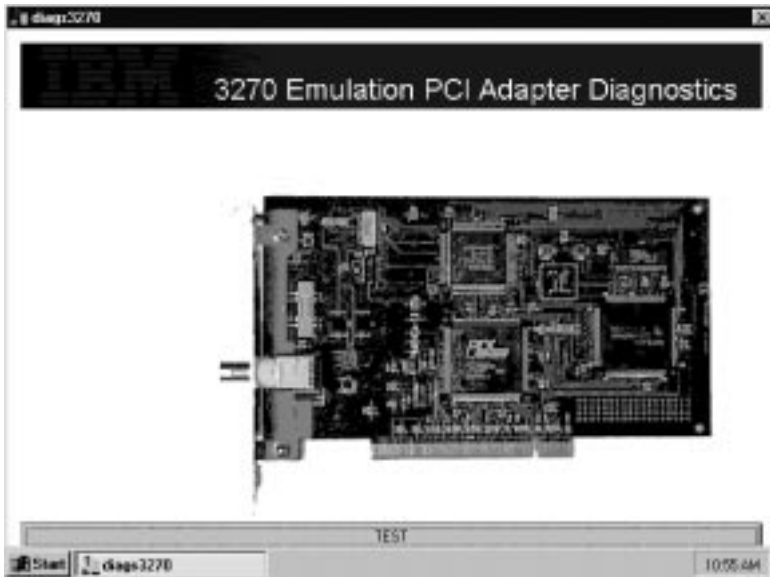

Figure 1. 3270 Emulation PCI Adapter Diagnostics - Test
5. Select **Diagnostic Utility** from the CD-ROM menu. The window shown in Figure 1 appears.